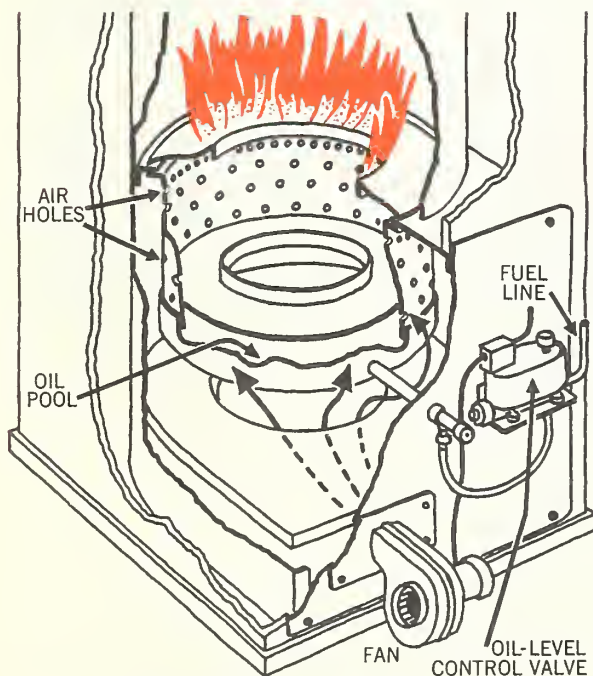

Figure 24.—Pot-type oil burner.
**Oil burners.**—Oil burners are of two types: vaporizing and atomizing. Vaporizing burners pre-mix the air and oil vapor. The pot-type burner (fig. 24) is vaporizing. It consists of a pot containing a pool of oil. An automatic valve regulates the amount of oil in the pot. Heat from the flame vaporizes the oil. Air enters just above the pool of oil either by natural draft or by a small fan. Both fuel and air must be carefully adjusted for a clean, sootless flame. A pilot flame ignites the oil pot when heat is required. There are few moving parts and operation is quiet.